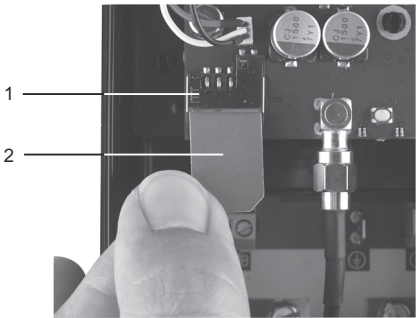

Fig. 11 Inserting the SIM card
3. Insert the SIM card into the CIM 250. See fig. 11.
Note The slanted edge of the SIM card must point downwards (away from the connector). The connectors on the SIM card must face inwards towards the CIM 250. See fig. 11.